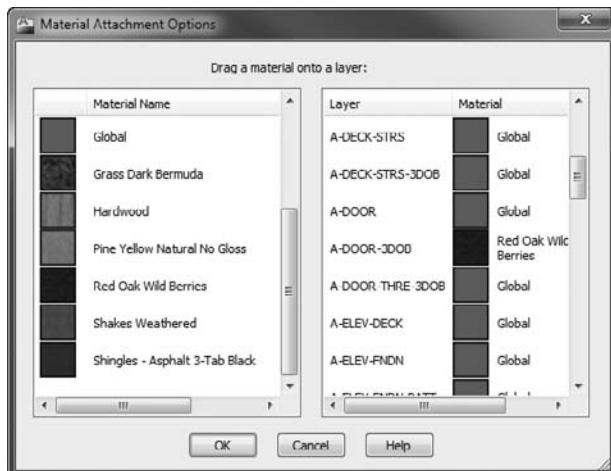

FIGURE 17.26 The Material Attachment Options dialog box
2. The Material Attachment Options dialog box, shown in Figure 17.26, is split into two parts. The left side displays a list of materials loaded into the current drawing, and the right side displays a list of layers in the current drawing. By default, the Global material is assigned to each layer.